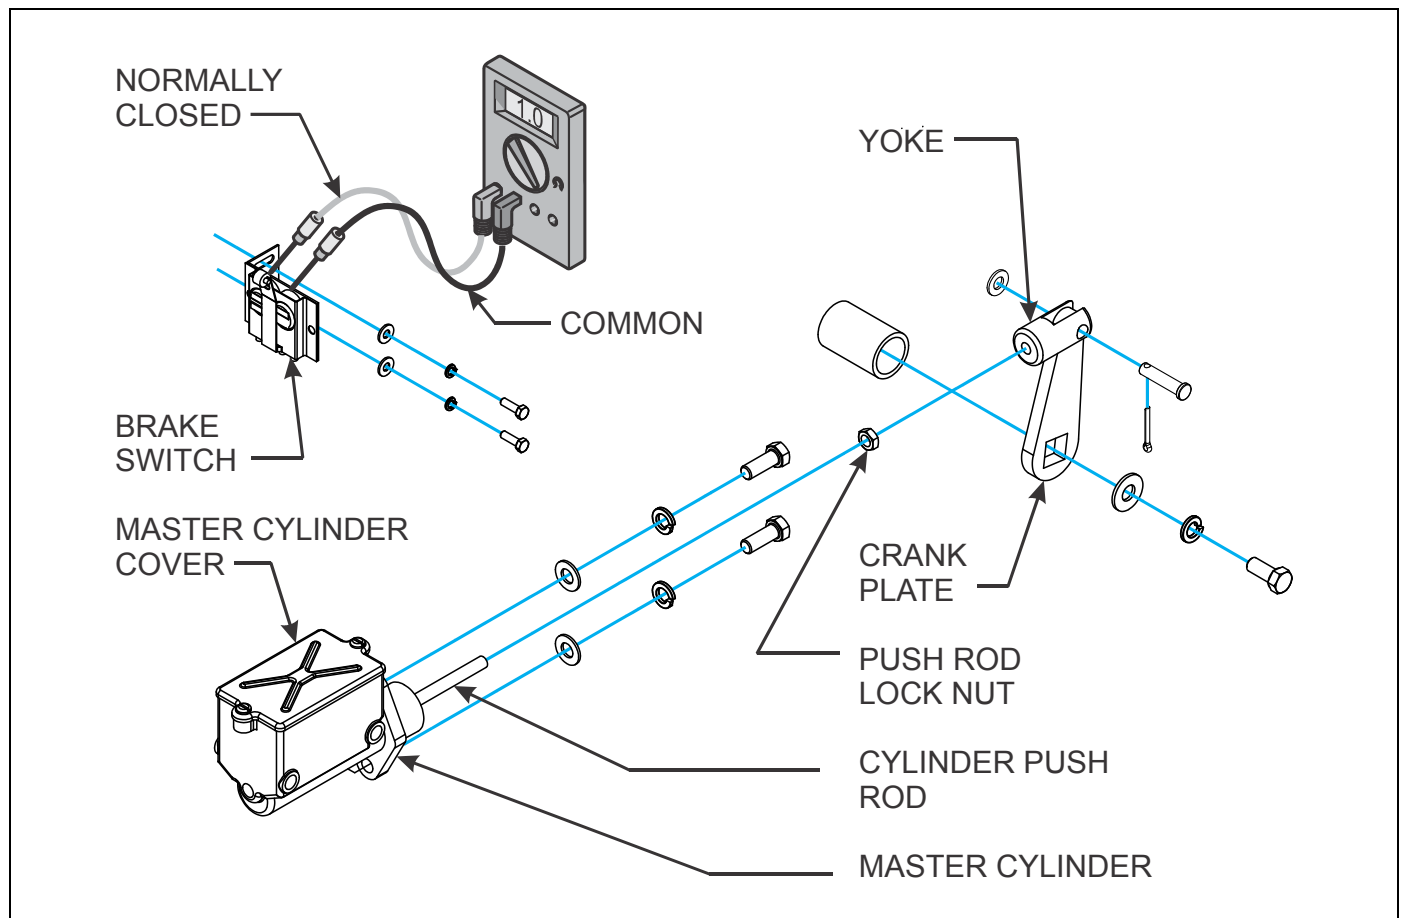

Figure 3-27: Master Cylinder and Brake Switch
5. Loosen 5/16" (7.94 mm) lock nut on the master cylinder push rod (See Figure 3-27).
7. Slide the brake switch forward or backward to locate the switch at this position - to just trip as the pedal begins its downward stroke (See Figure 3-27).
4. Slightly loosen both brake switch hex head screws (See Figure 3-27).